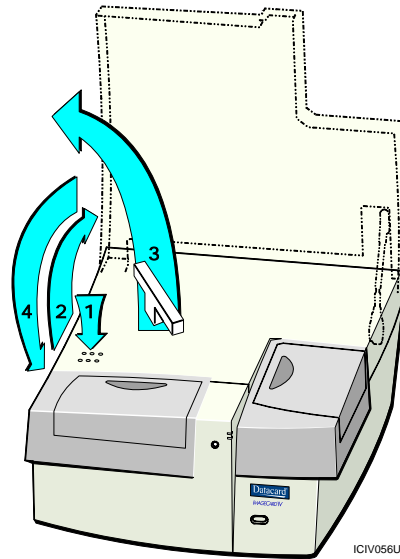

Figure 1-4: Push and lift to open the top cover
- 11 Push down on the  corner of the printer's top cover to unlatch it (step 1 in Figure 1-4). Lift the top cover to the fully upright position (step 2 in Figure 1-4).
12 Remove the internal shipping material from the print station (step 3 in Figure 1-4).